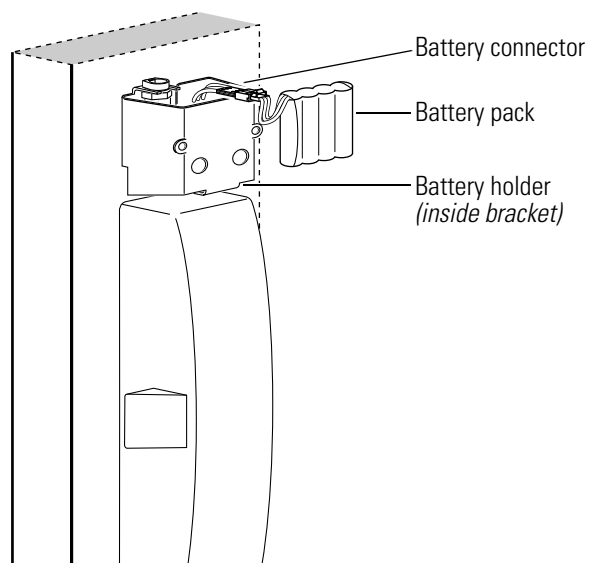

Figure 11.8 Removing and reinstalling the battery pack
3. Remove the battery pack from the holder inside the battery bracket. See Figure 11.8.
1. Connect the battery pack to the battery connector on the wire harness as shown in Figure 11.8.